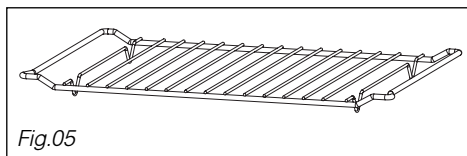

Fig.05
• **Grid** (Fig.05): Allows you to toast, brown or grill. The grid should not under any circumstances be used with other metal cookware on the microwave, grill + microwave or fan heat + microwave settings. However, you can reheat food in an aluminium tray if you insulate it from the grid using a plate.